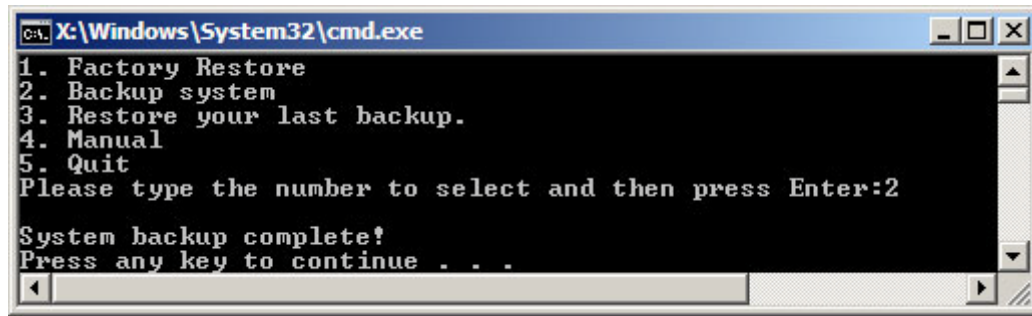

Figure B-37: System Backup Complete Window
Step 6: The screen shown in **Figure B-37** appears when system backup is complete. Press any key to reboot the system.